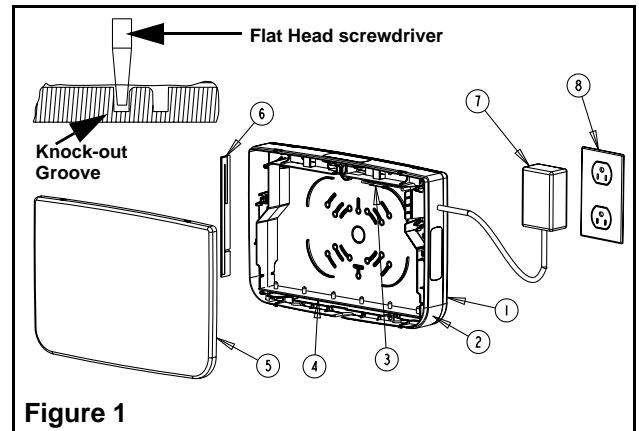
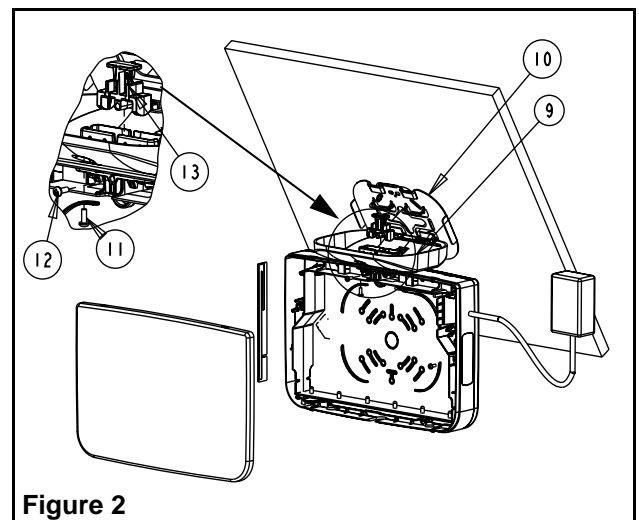

Figure 1
Figure 2
- a. No canopy required. You may use the available knock-outs to facilitate the installation. If so, with the help of a flat head screwdriver, knock out the hole pattern in the back cover to mount it to the wall (see Fig. 1).
- a. Canopy required. Remove top hole plug. Remove the canopy lock(13) (if supplied). Snap canopy on top of frame(2) (see Fig. 2). Re-install the canopy lock (if supplied). Screw canopy to frame. In the case where a canopy lock is supplied, you may refrain from screwing the canopy to the frame. However, for applications having a greater risk of exposure to abnormal impacts, we suggest to always use the canopy housing screw(12) (Fig. 1 and 2).
- b. Slide ribs on canopy into designated notches on the spider plate (see Fig. 2). Secure the canopy to the ceiling using the canopy screw provided(12).
5. Ensure the antenna is installed vertically as shown (6).